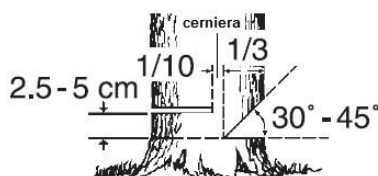

Fig. 10
1. Make a notch of about 1/3 of the diameter of the shaft (Fig. 10) and at an angle of 30°-45°. The position of this notch is important because the tree will tend to fall in the direction of the notch itself.